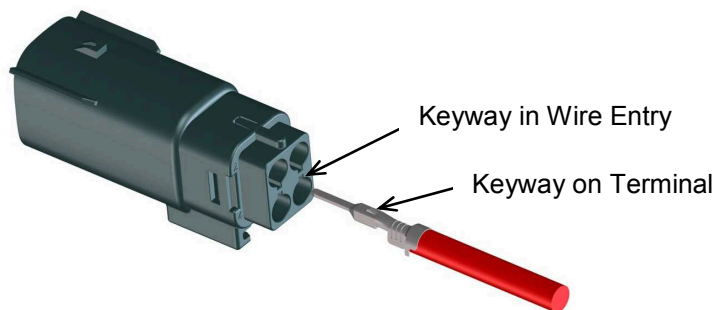

Figure 2: Terminal Orientation
2. The terminal must be positioned correctly when inserted into the housing to assure proper latching and retention. Orient the key on the back of the male terminal with the keyway on the rear of the housing (See Figure 2). Insert the terminal into the housing until it clicks and a slight pull back on the wire is met with resistance from terminal retention feature.